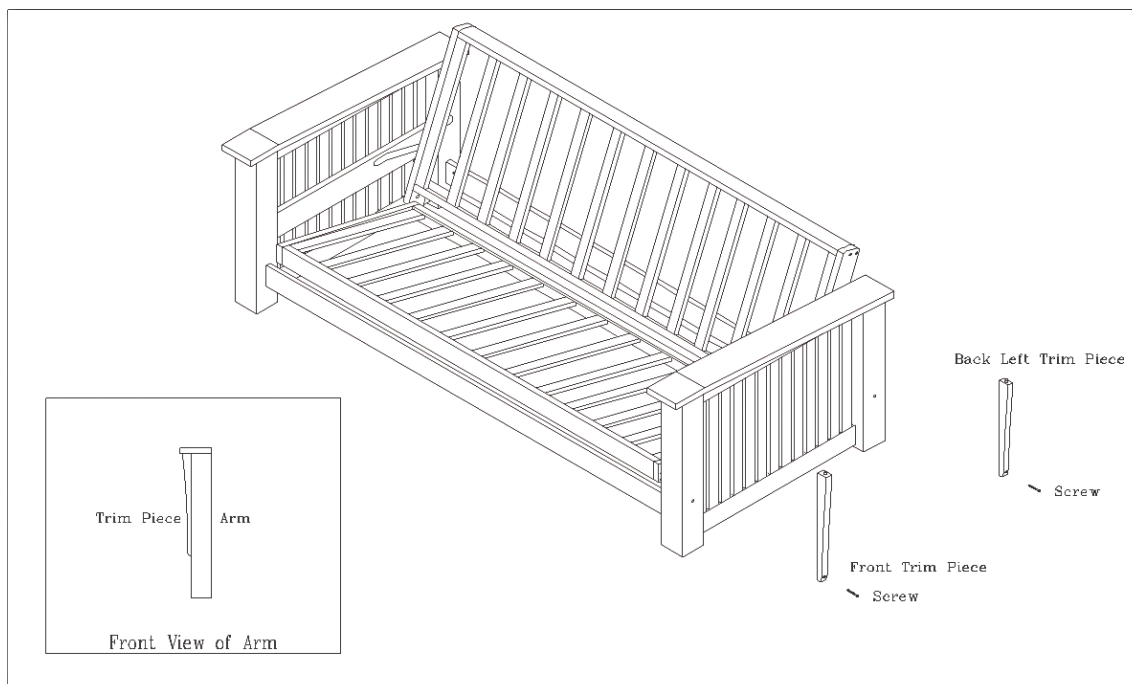

Figure 1
- 12) Locate two long trim pieces. Push top dowel into hole on front leg under armrest (Figure 1). Turn the Brass Plated screw into the pilot hole. Repeat for other side.
- 13) Locate two short trim pieces. They will be labeled “R” and “L”. Attach “R” to back leg of right arm and “L” to back leg of left arm (Figure 1).